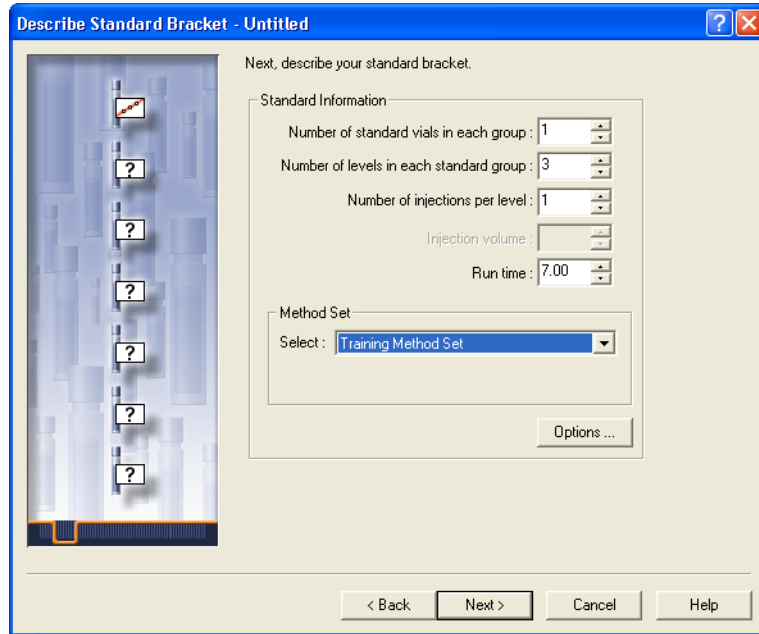

Figure 5-5 New Sample Set Method Wizard, Describe Standard Bracket Page
5. Select **Different standard levels are created with different injection volumes using an autosampler**, then click **Next**. The Describe Standard Bracket page appears (Figure 5-5).